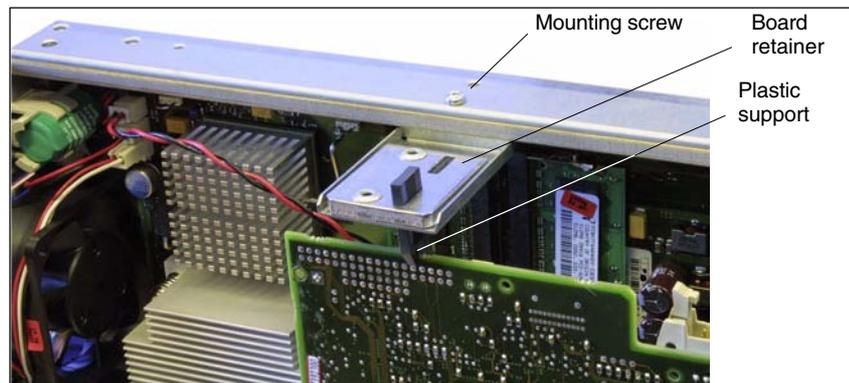

Fig. 2-9 Mounting of the module
4. Remove the fastening screw of the module holding-down device (Fig. 2-9) of the MCI board and remove the module holding-down device.